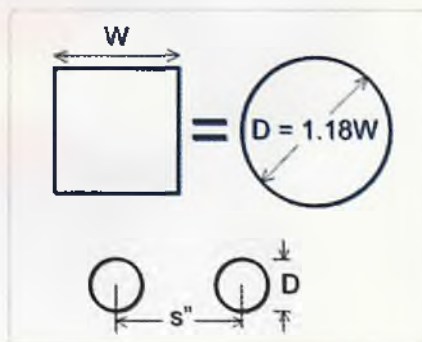

Figure 2: Substituting the 'round equivalent of square'. It works for antenna elements, not with transmission lines.
I spent quite some effort trying to adapt microstrip design practices, but that proved a frustrating dead end. I posted a question to the VK-VHF Reflector about calculating the characteristic impedance of square-section parallel lines. Answers alerted me to the idea that, in RF applications, there is an "equivalent" round-section conductor for a given square-section conductor. For a square-section width, W , the electromagnetic equivalent round-section conductor of diameter (D) is 18% larger (Schmidt), as illustrated in Figure 2.